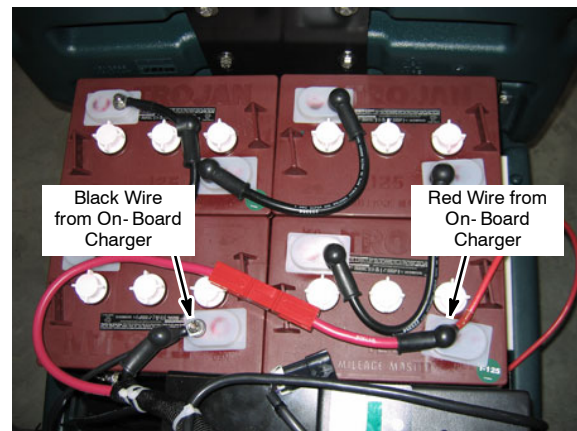

Fig. 9
12. Attach the black wire from charger to negative battery terminal, and red wire to the positive battery terminal. Reconnect the red battery plug (Figure 9).